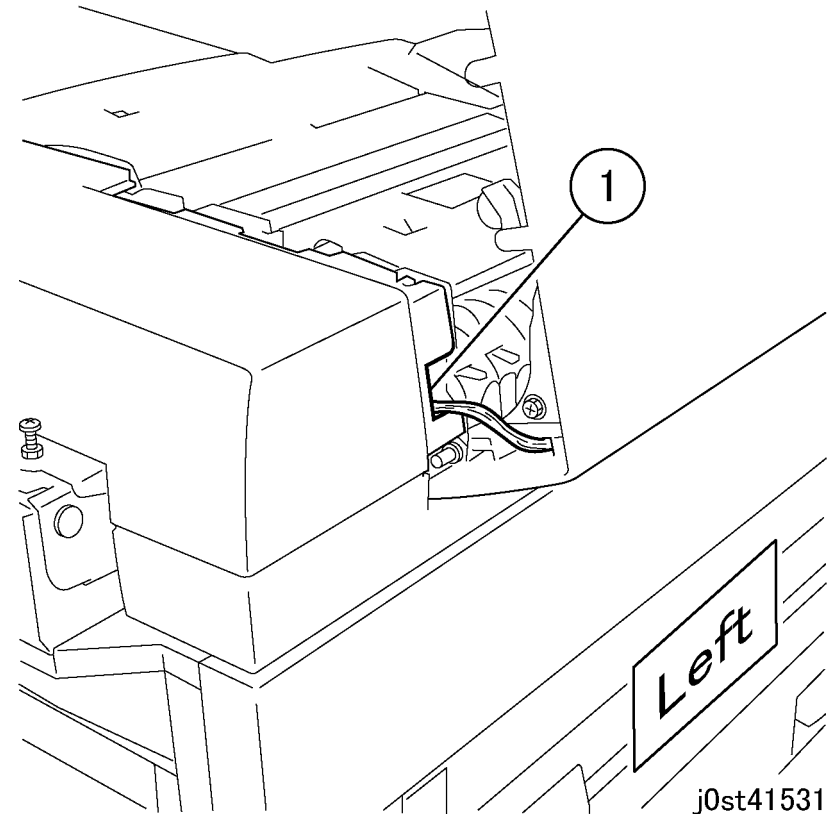

Figure 2 Installing the DADF Rear Cover
1. Pull the harness to the notch of the DADF Rear Cover when installing the DADF Rear Cover. (Figure 2)